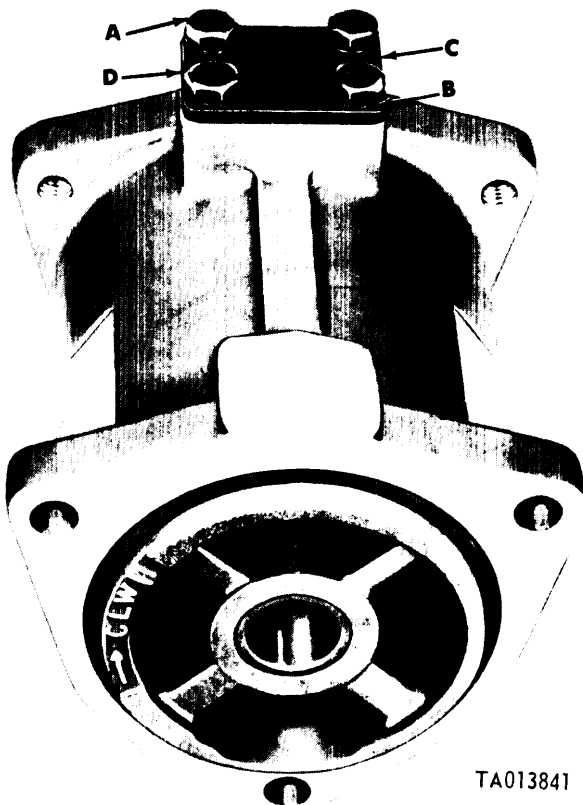

Figure 3-96. Removing or installing timing cover.
(2) Refer to figure 3-96. Remove four capscrews (A), lockwashers (B), and timing cover (C). Remove and discard timing cover gasket (D).